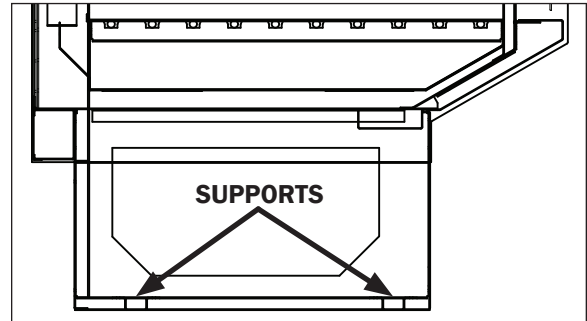

Fig. 1 Horizontal supports
7. Locate horizontal support positions along the chalk line (Fig. 1). Spot properly leveled shim packs at each support location.